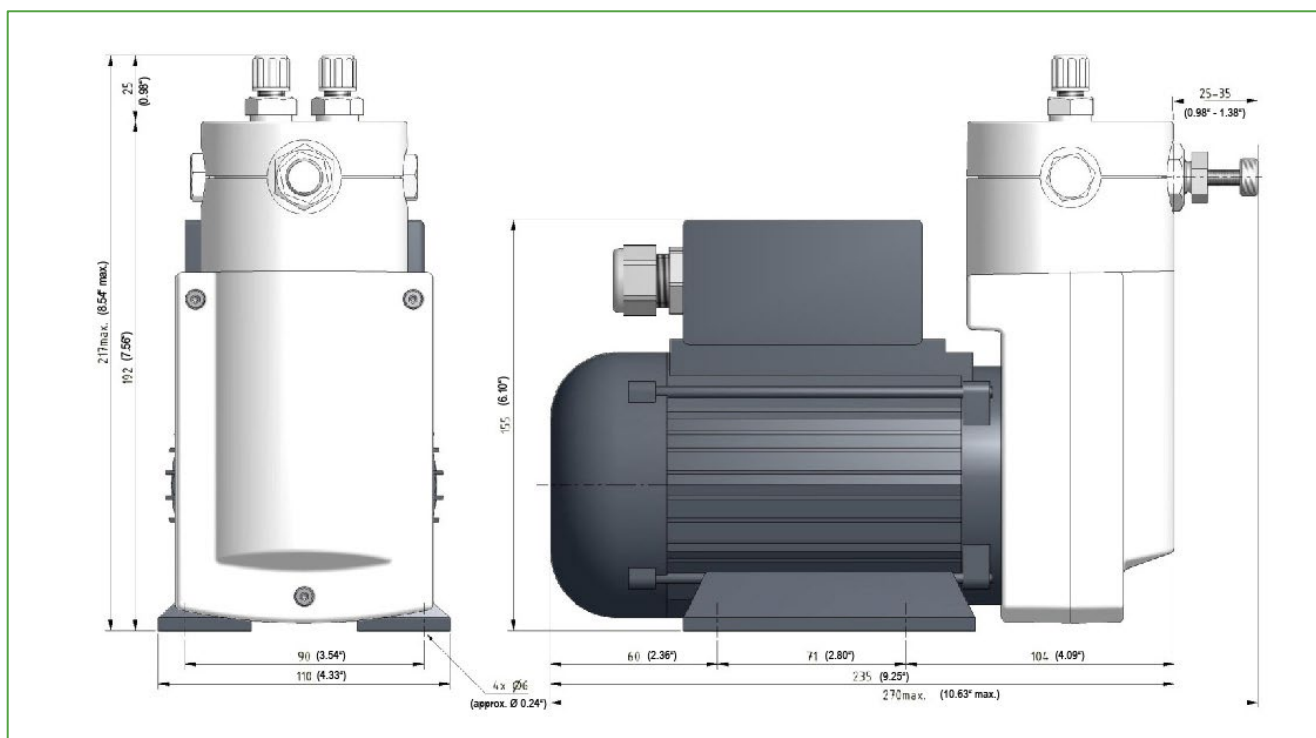

Figure 4 Dimensions MP-F./R
- Mount the pump through the four 6 mm holes located in the base of the pump. If vibrations are likely to occur at this location, use vibration control air springs to decouple the vibration source. Screw the pump tightly to the ground. For dimensions, please see Figure 4. For sufficient supply of cooling air, the pump needs to be mounted at least 25 mm apart from the wall.